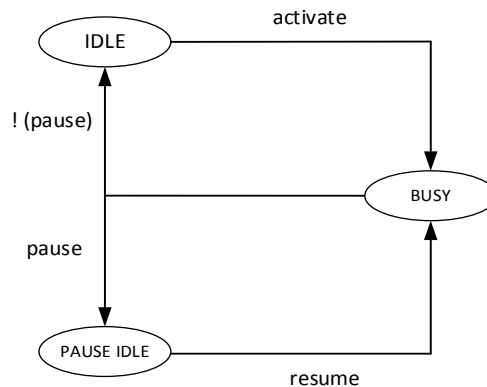

Figure 2.5-3. Operation flow with and without PAUSE mode
- Unlimited length transmission can be achieved by enabling pause mode. In pause mode, the CS signal will stay active after one transfer. During this period, the SPI master controller will be in **PAUSE\_IDLE** state and wait for the resume command to start the next transfer. Figure 2.5-3 is the state transition diagram.